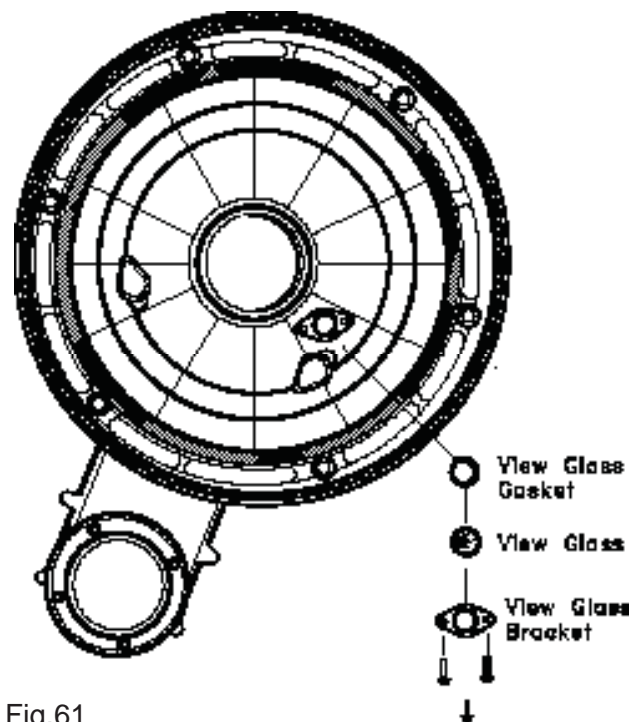

Fig.61
8.11 TO REMOVE/REPLACE VIEWING GLASS. (Fig.61).